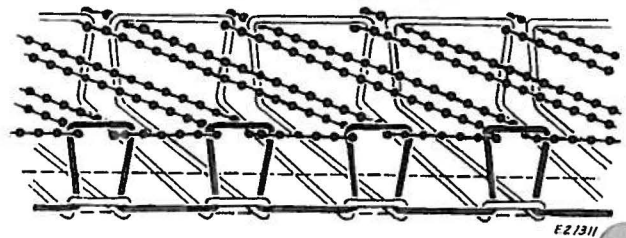

Fig. 5. Stitch Formation (Stitch Type #505)
- ... machine is frequently fitted to produce the three-thread purl-on-the-edge stitch (Stitch Type #505 shown in Fig. 5), upon specific order. See page 11 for instructions on threading.